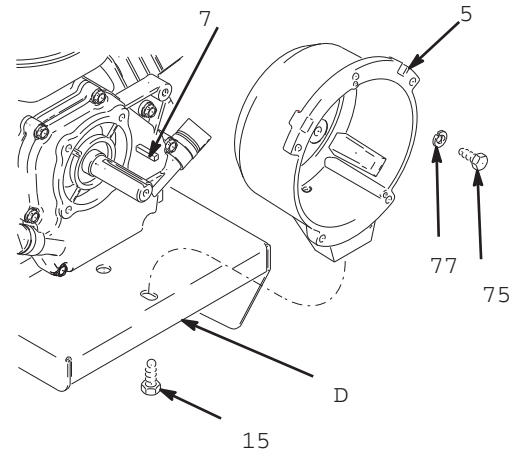

FIG. 16
NOTE: All Steps refer to FIG. 16.
1. Install green ground wire and control board (302) with five screws (303).
2. Connect to control board (302):
- Two red leads (A) to ON/OFF switch (309).
- Lead (E) to transducer.
- Lead (D) to potentiometer.
3. Fig. 16. Install cover (322) with five screws (307).